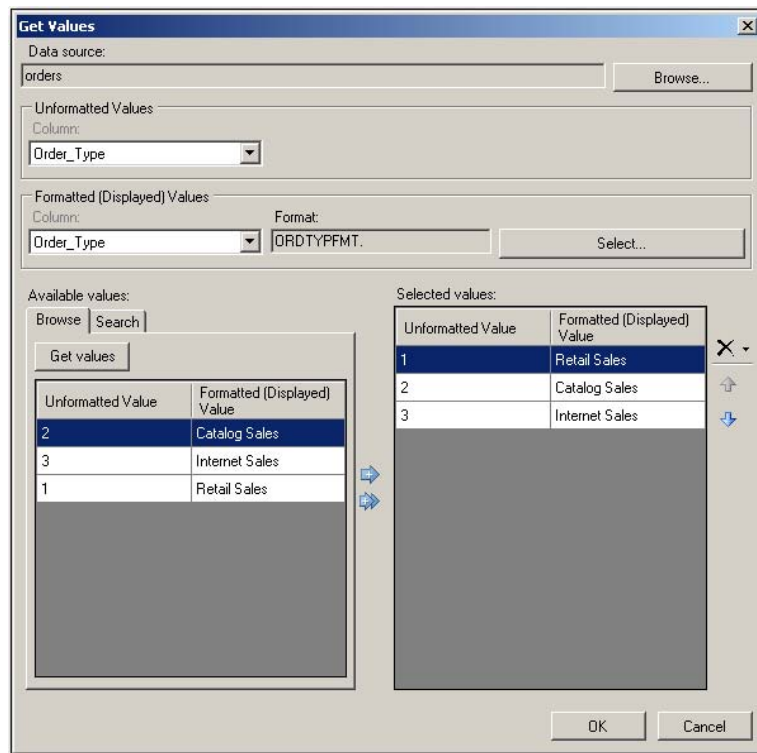

Figure 6. Get Values
15. Your window should now look like Figure 6. Click **OK**, then **OK** again, and **Close** to exit and create the prompt.